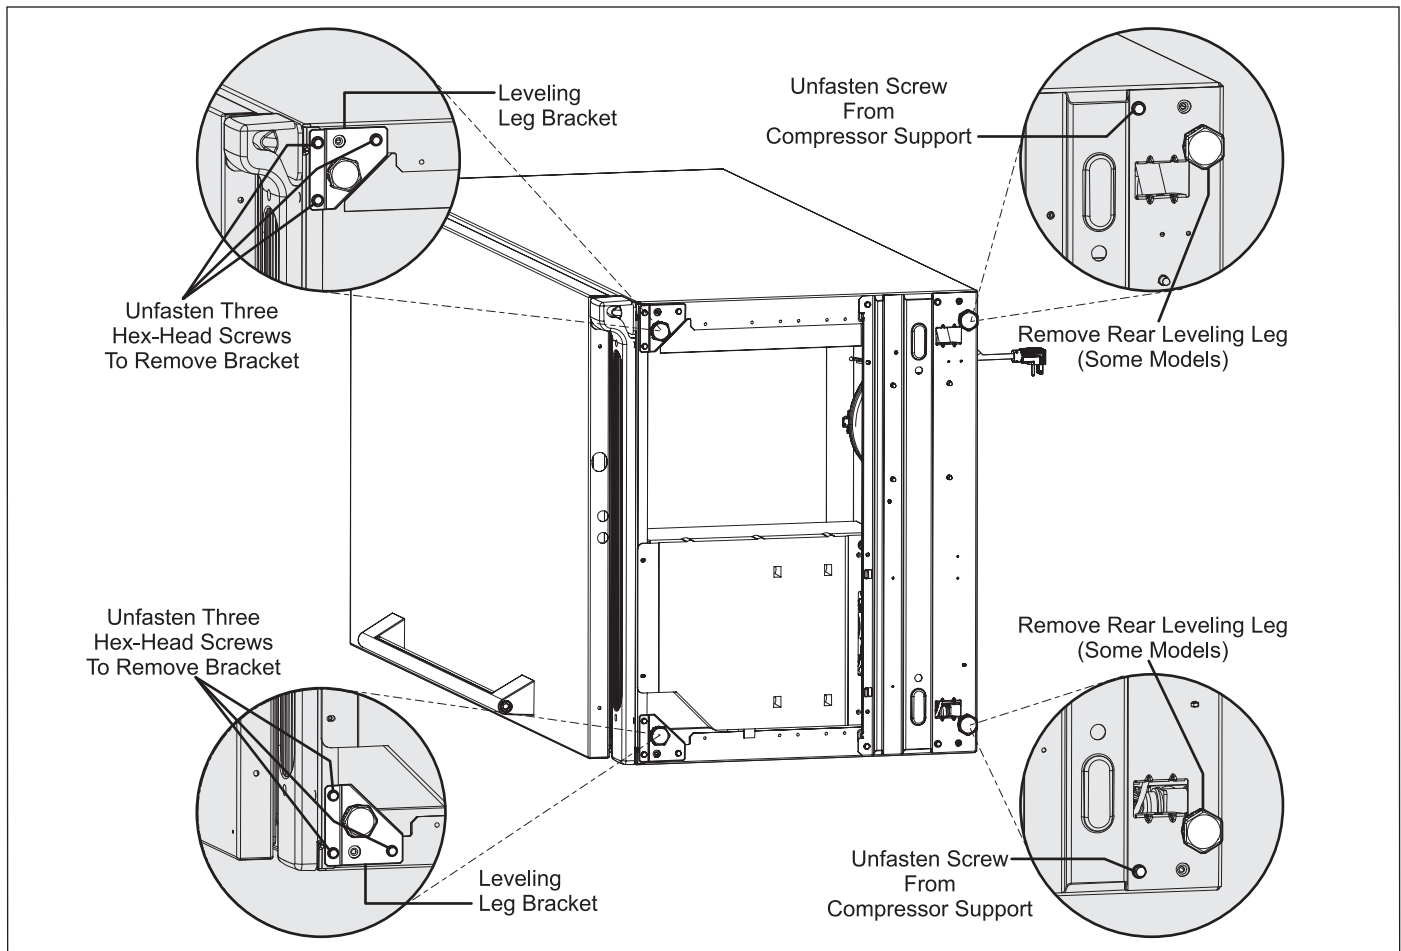

Figure 2-21.
Installing The Riser Kit On Late Models (See Figure 2-21 to identify)
3. Remove the two front leg leveler brackets, (2) compressor support screws and rear leg levelers, if applicable, as shown in Figure 2-21.